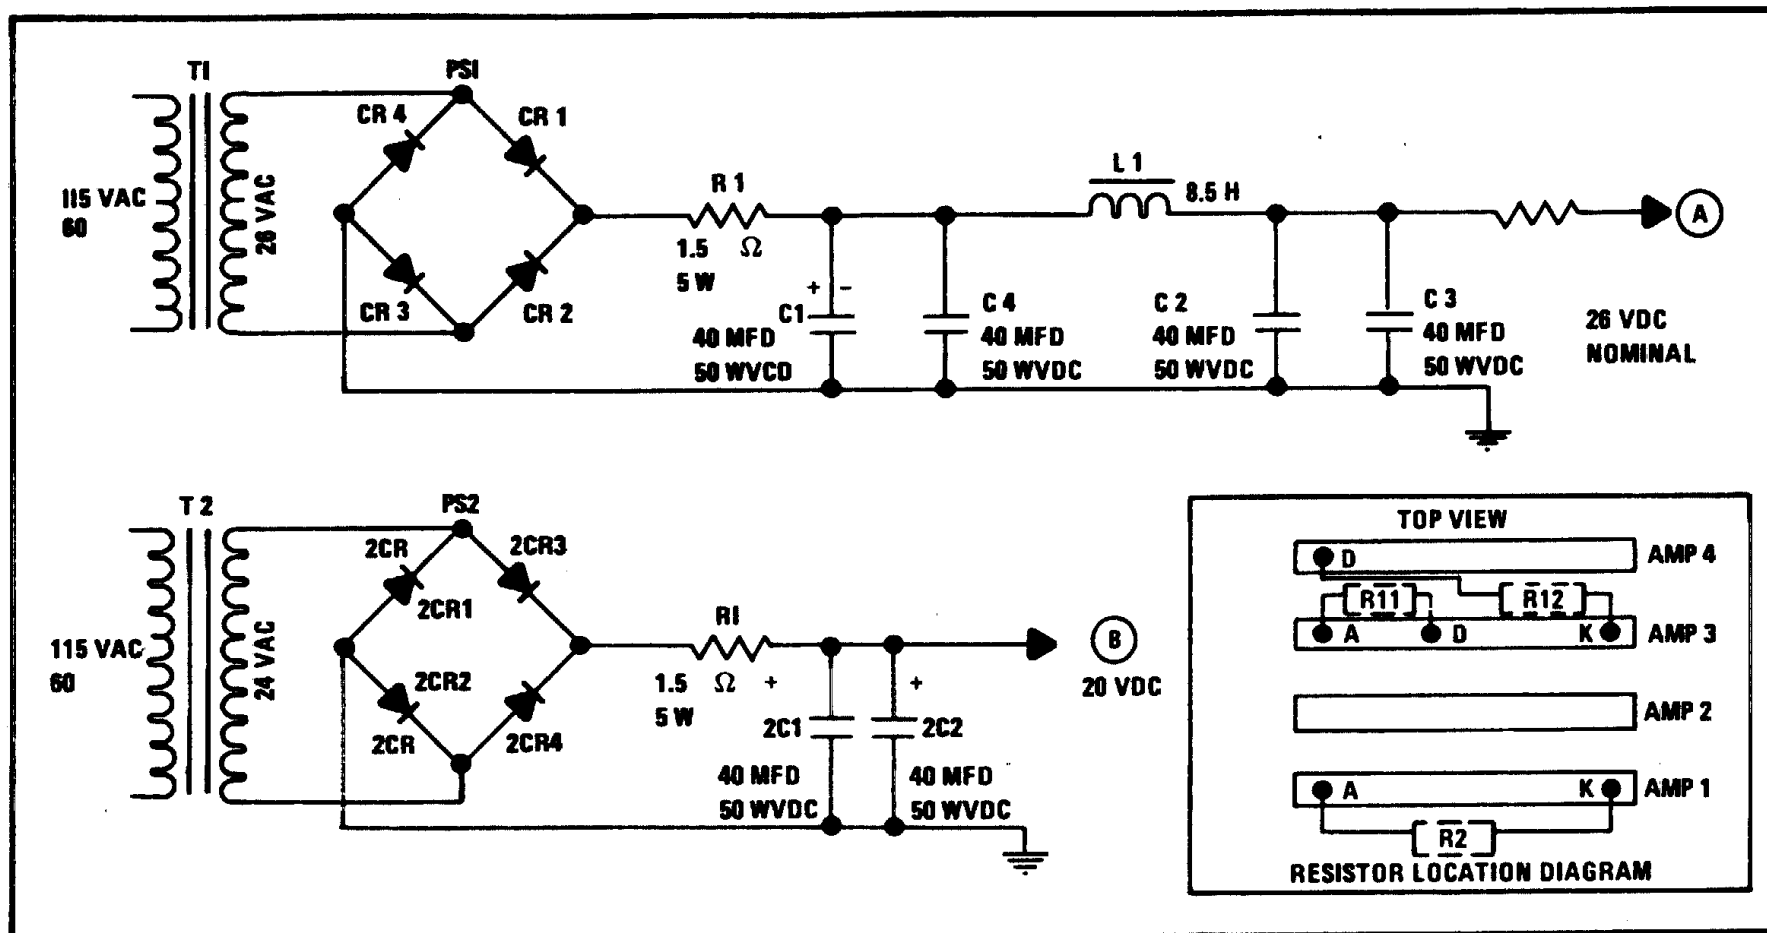

Figure 7-2. Circuit Dim, Power Supply, Telephone Set TA-676/G
(2) *Circuit Diagram.* The circuit diagram for power supplies PSI and PS2 is shown in figure 7-2. Resistor location wiring on AMP 1 through AMP 4 connectors is shown. Power supplies, components, and output operating voltages are shown on the circuit diagram.
Defective power supply PSI	Check for 26 Vdc output of PS1 (figure 7-2). Remove and replace faulty PS 1 component.